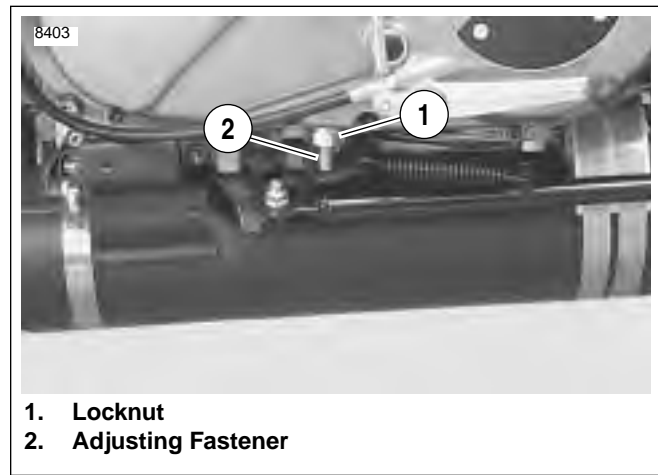

Figure 1-34. Chain Tension Adjusting Fastener
1. See Figure 1-34. Loosen locknut (1).
2. Turn adjusting fastener (2):
3. Tighten locknut (1) to 20-25 ft-lbs (27-34 Nm).